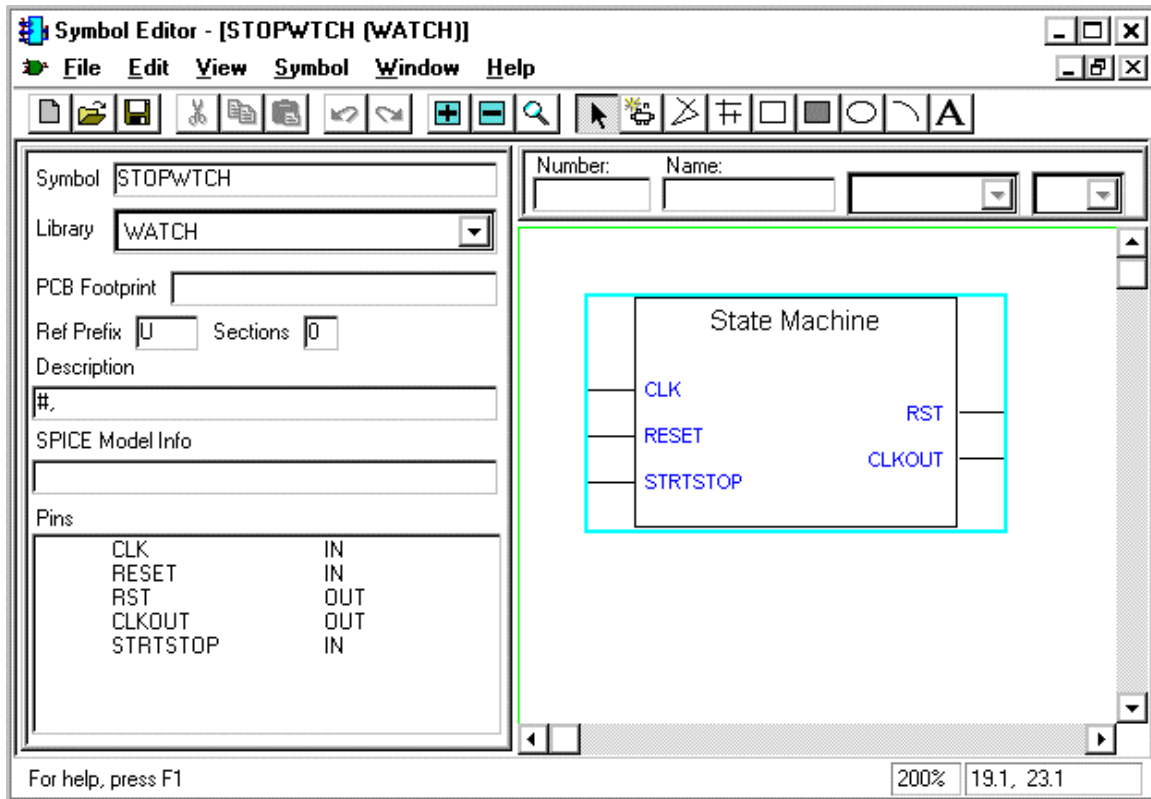

Figure 6. The Symbol Editor.
- 1) To edit the ports attached to the STOPWTCH symbol, double click on the symbol in the schematic editor. After the “**Symbol Properties**” dialog box opens, click on the Symbol Editor button at the bottom of the window. This will open the “**Symbol Editor**” window (see Figure 6).